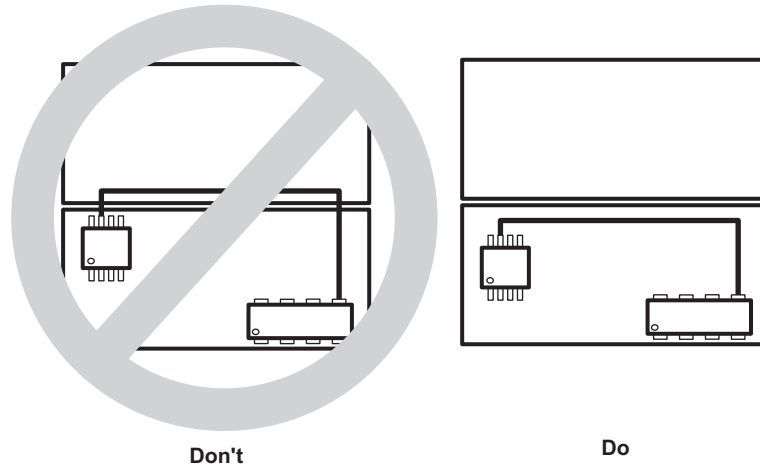

图 7-36. Do Not Cross Plane Boundaries
- Do not route traces so they cross from one plane to the other. This can cause a broken RF return path resulting in an EMI radiating loop as shown in 图 7-36. This is important for higher frequency or repetitive signals. Therefore, on a multi-layer board, it is best to run all clock signals on the signal plane above a solid ground plane.